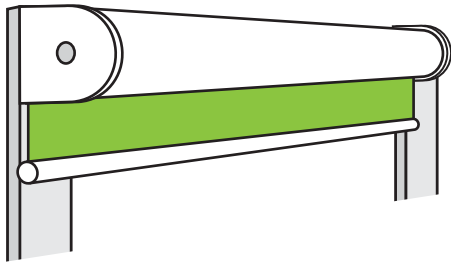

fig:1
- When ordering please pay special attention to the **Back Colour** as specified in the fabric description. As a number of blockout fabrics have a white, off white or cream coating on the back (**to maximise light and heat reflection**) the back coating colour will be noticable on the top roll of the blind (**refer fig:1**). If this not acceptable to your situation, please consider ordering your blind as an Over Roll (Front Roll) (**refer fig:2**) **not available for Bonded Rollers**